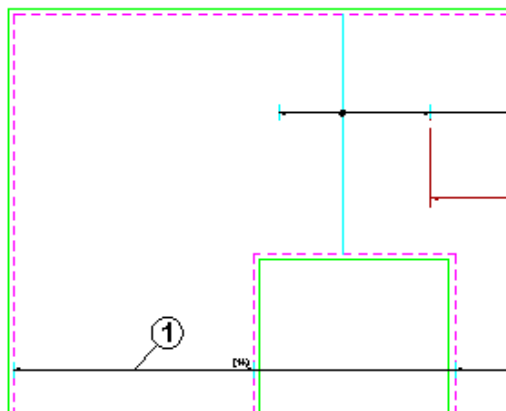

Figure 7.3.10:1 Using Edit Range to add a Range Group
4. Make the Viewport on *Edit Range Multiple Group (04) Layout* current
9. Select **CADS RC** → **Editing** → **Edit Range** or or double click on the Range Line as shown by point 1 in figure 7.3.10:1 below